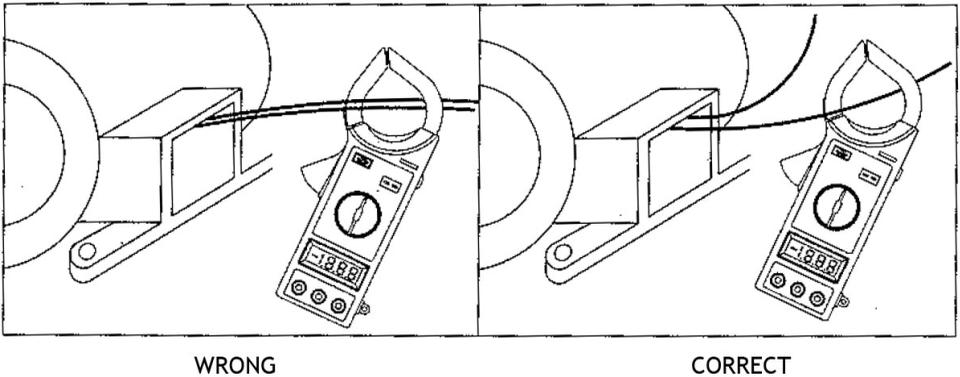

Fig 1
1. Set the rotary switch at desired A - range position. Press the trigger to open the transformer jaws and clamp onto one conductor only (Fig 1). The transformer jaws pick up the AC current flowing through the conductor.